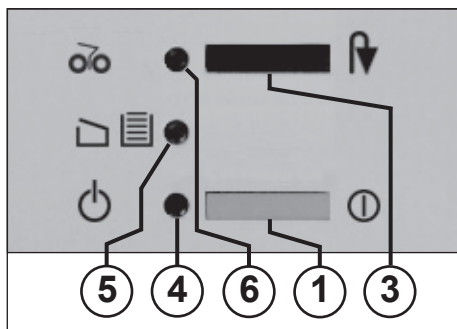

Fig. 1
**1 = Pushbutton switch (fig. 1)**
**3 = Pushbutton switch (fig. 1)**
**4 = Pilot lamp (fig. 1)**
**5 = Pilot lamp (fig. 1)**
**6 = Pilot lamp (fig. 1)**
- b) while the cutting mechanism is running, the pushbutton switch (3) is pressed. The cutting mechanism is switched off and stops.
- Turn machine on with pushbutton switch (1) (fig. 1). Pilot lamp lights up (4) (fig. 1).
Once the collecting bag is full, the machine switches off. The pilot lamp „Container full“ / „Door open“ (5) (fig. 1) **flashes**. To show that the cutting mechanism has stopped, the pilot lamp “Paper jam” / “Stop” (6) lights up.
- Move back the sliding frame with the collecting bag and close door. The pilot lamp (5) (fig. 1) goes off.
- Briefly press the pushbutton switch „Backward operation“ / „Stop“ (3). The cutting mechanism shreds what remains in the feed shaft and then switches off. The pilot lamp (6) goes out. You can now continue shredding.
- The pilot lamp (6) (fig. 1) lights up.
- **Continuously** press pushbutton switch “Backward operation” / “Stop” (3) while simultaneously removing from the machine any documents that were being fed in.
- After removal, the cutting mechanism automatically runs forwards, shreds any remnants remaining in the inlet slot and then switches off. The pilot lamp (6) (fig. 1) goes out.
**Note:** If removal is not possible, then briefly press the pushbutton switch “Backward operation” / “Stop” (3) again. The cutting mechanism now automatically repeats the process as described above until the paper remaining in the cutting mechanism has run through.
The motor shuts down automatically, should it become overloaded. Turn the machine off with the pushbutton switch (1) (fig. 1).